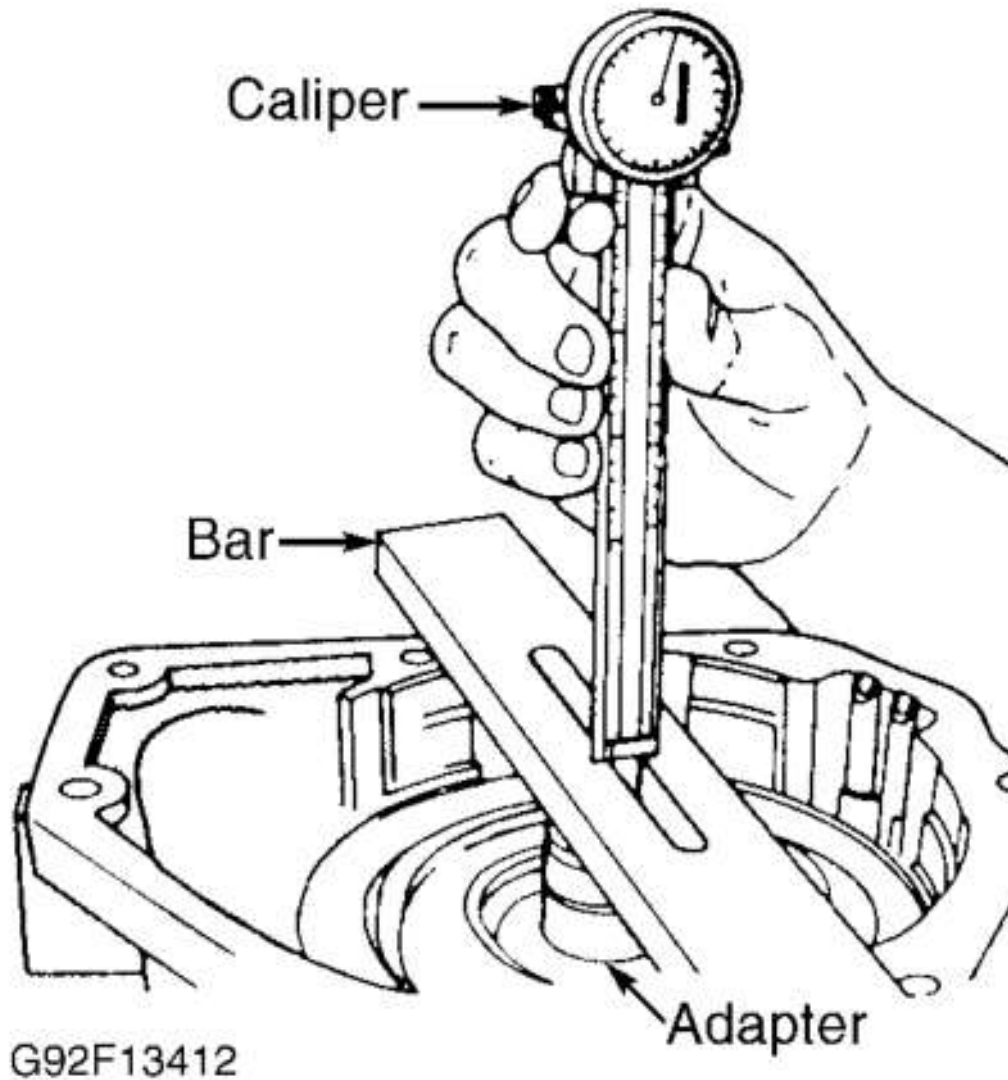

Fig. 51: Measuring Output Shaft End Play
1. To determine intermediate shaft selective spacer, output shaft end play is checked. Place overdrive unit in vertical position. Install Adapter (6312) through sun gear, planetary gear and into pilot bushing in output shaft. See **Fig. 51** . Ensure adapter bottoms against shoulder on planetary gear.